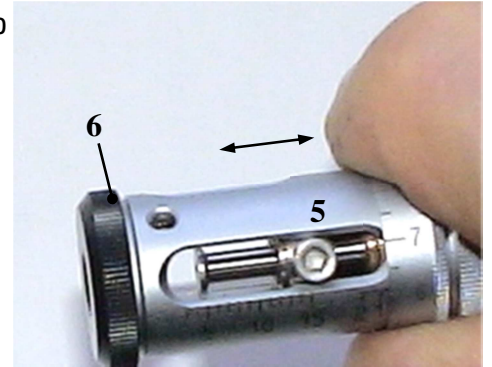

Fig. 15 Settle blades
- Slowly push the stripping head **(5)** back and forth. **(Fig. 15)**
- Pull the stripping head **(5)** backwards as far as it will go and, holding this position, tighten the end cap **(6)**. **(Fig. 15)**